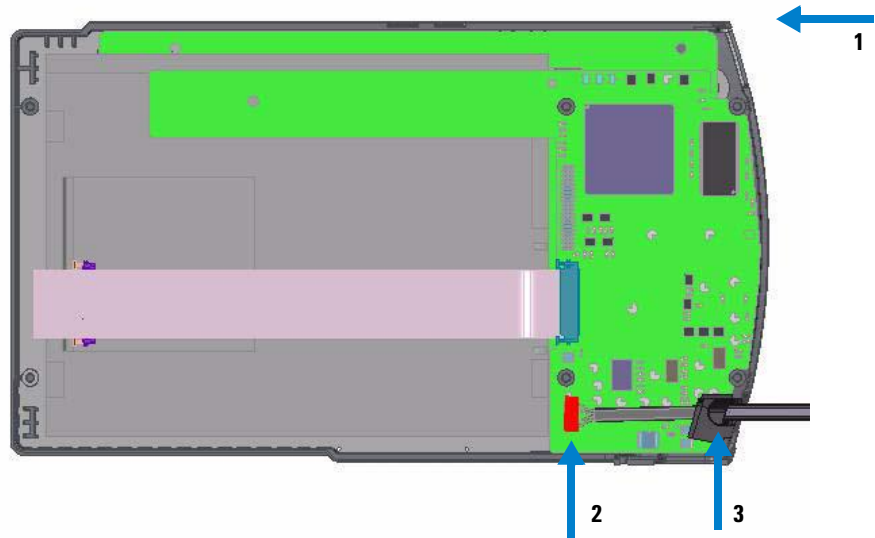

Figure 118 Rear Panel - location of cable, connector and release button
- 5 The release button [1] (shown in Figure 118) may fall out during the removal. Keep it.